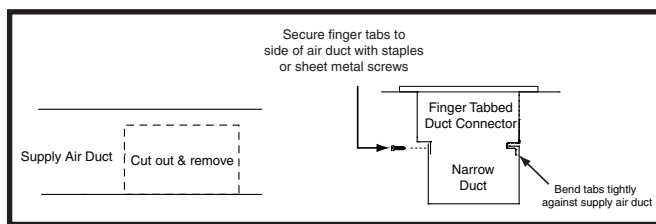

Figure 14. Narrow Air Ducts - Option 1
1. Cut and remove the top of the supply air duct as shown in Figure 14.
3. Bend the tabs on the bottom of the duct connector upwards and as tight as possible against the supply air duct (Figure 14).